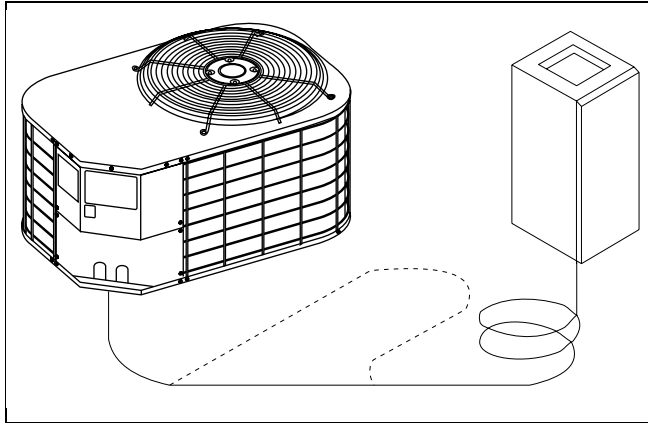

FIGURE 5 : EXCESS TUBE
- b. Excess tubing must be coiled horizontally so the flow of refrigerant is from top to bottom of the coil and toward the outdoor unit. Another method is to form a horizontal "U" large enough to take care of excess. See Figure 5.